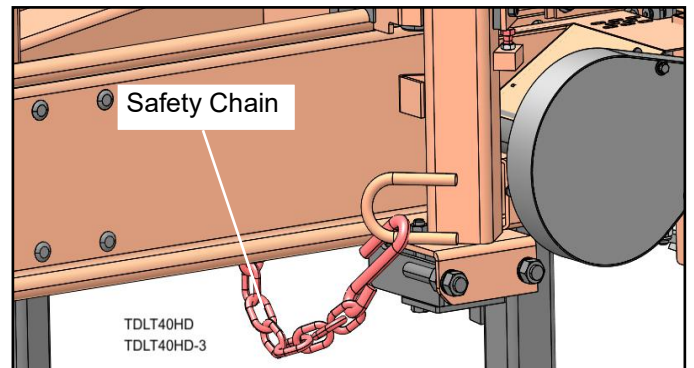

FIG. 4-18
15. Hook the carriage safety chain located at the bottom of the carriage to the bracket at the bottom of the mast. See Fig. 4-18.